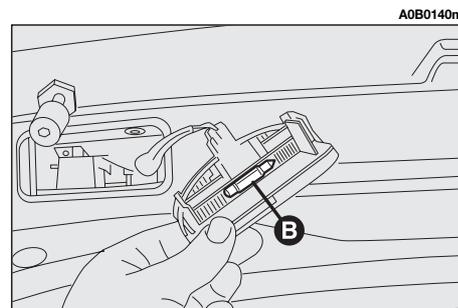

fig. 58
– Remove the bulb (**B-fig. 58**) pulling outwards and releasing it from the side contacts.